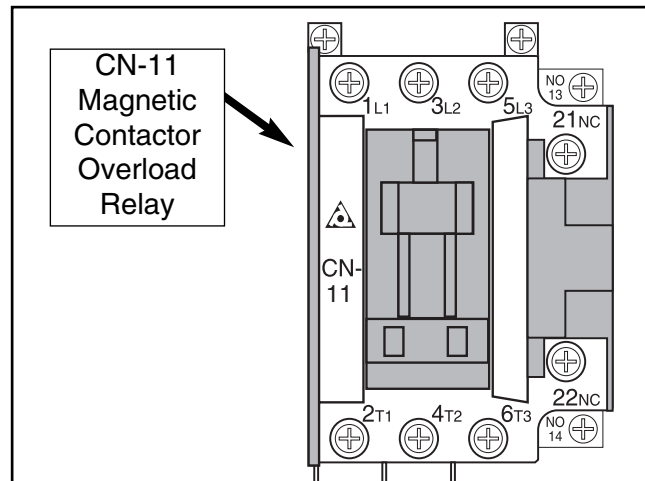

Figure 5. Overload relays.
4. Remove the CN-18 magnetic contact overload relay and replace it with a CN-11 type (Figure 5).